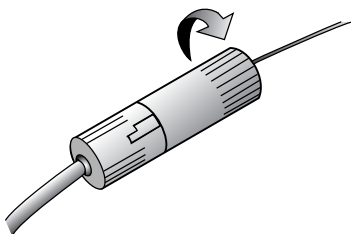

Figure 29. *Unlock twist-lock connector.*
2. Unlock the cylindrical twist connector (Figure 29).